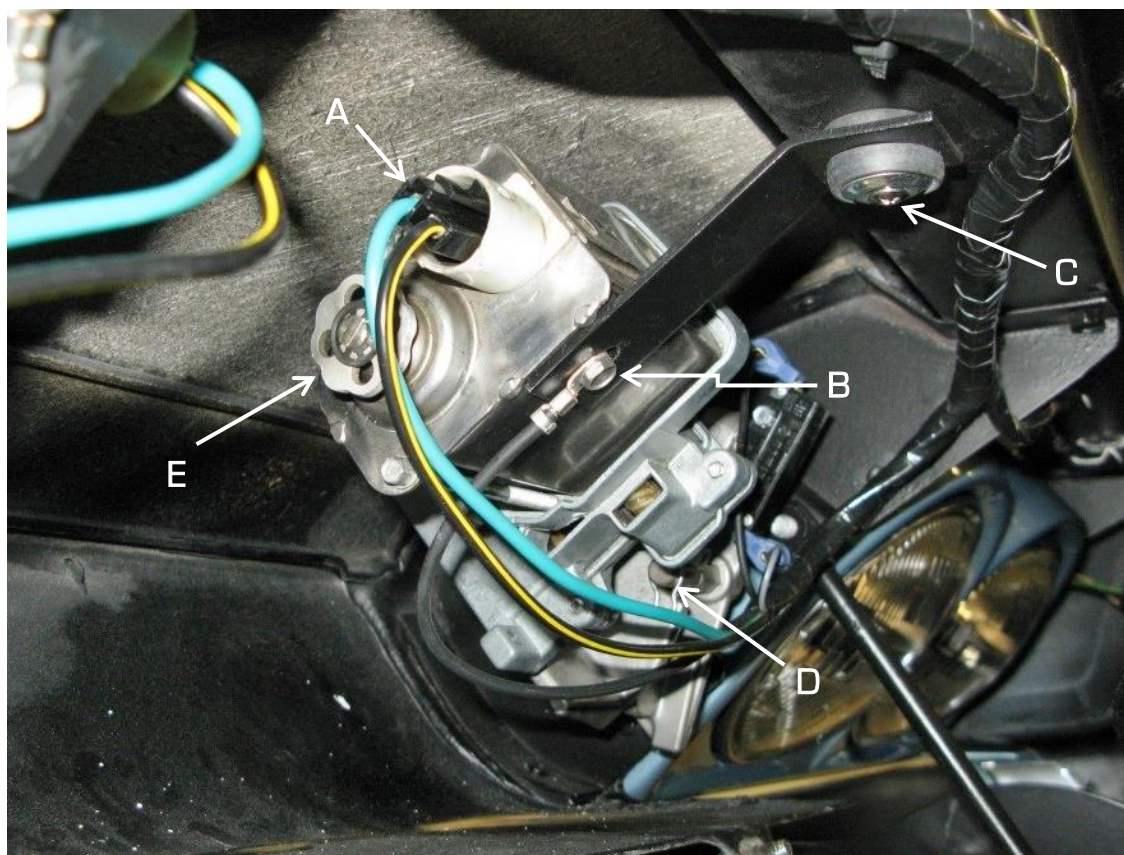

Figure 3 - Remove OEM Motor
6. Disconnect the original headlight motor wiring connectors, this will consist of one two-wire plug (Figure 3 Item A) and a separate ground wire (B) attached to the motor housing. Remove the motor support bracket rubber mount screws (C) that are located in the header panel. Remove the hairpin retainer clips (D) from the motor support studs. Turn the knurled knob (E) on the inboard side of the motors until the gear seems to turn freely, this will remove any preload from the motors. Remove the motor assemblies by sliding them off the pivot shafts towards the center of the car. It may be necessary to gently wiggle the motor assemblies to release tension between the motors and the pivot shafts.